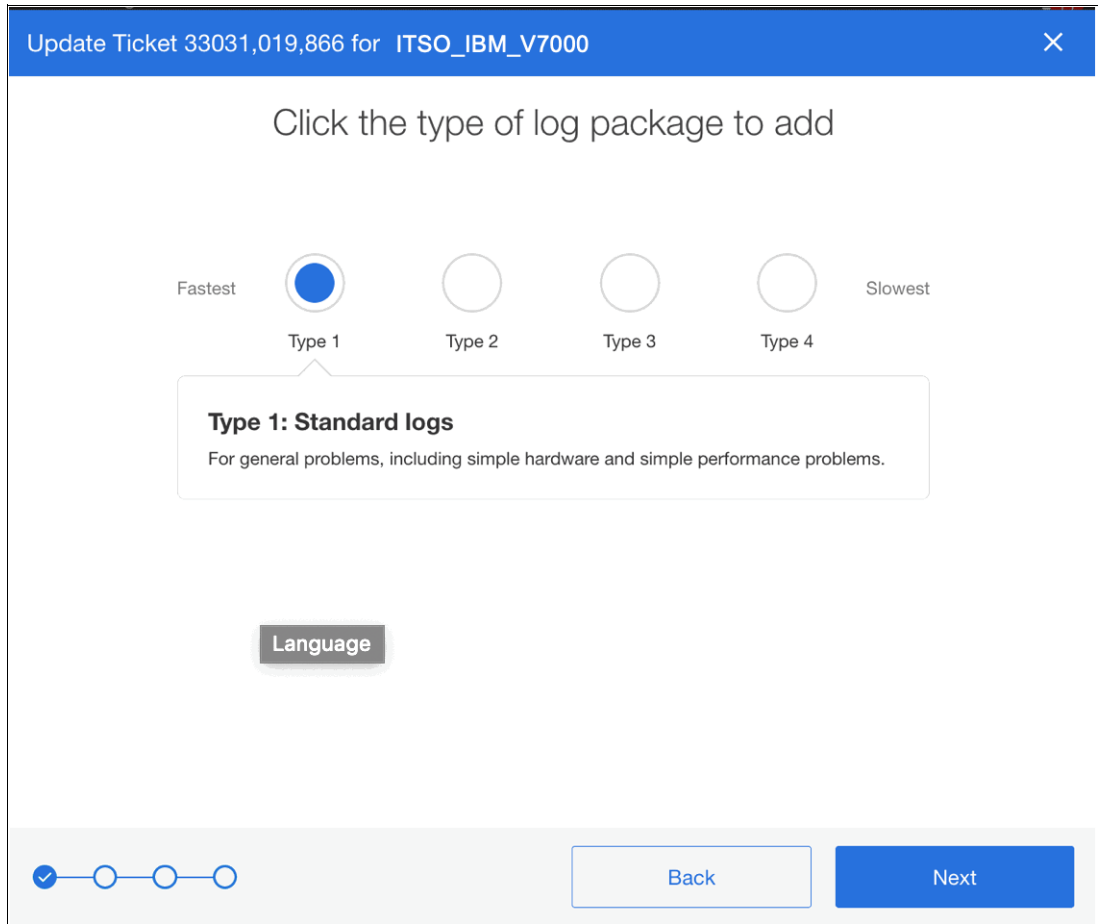

Figure 10-23 Log type selection
4. Clicking **Next** will then present you with the screen where you need to choose the log type to upload. Figure 10-23 on page 471 shows the log selection screen and the options.